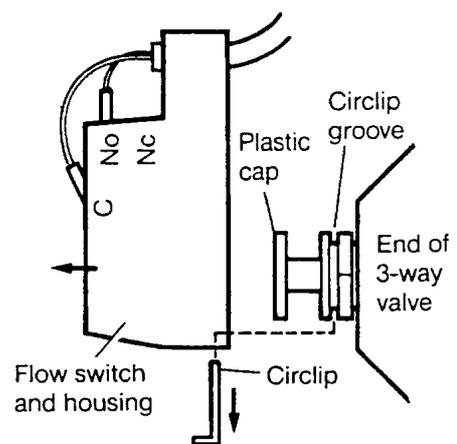

Fig. 20
9.7 DHW FLOW SWITCH ASSEMBLY (See Fig. 20)
- 3 From underneath the boiler, withdraw the circlip securing the flow switch assembly to the end of the 3-way valve. See Fig. 20.